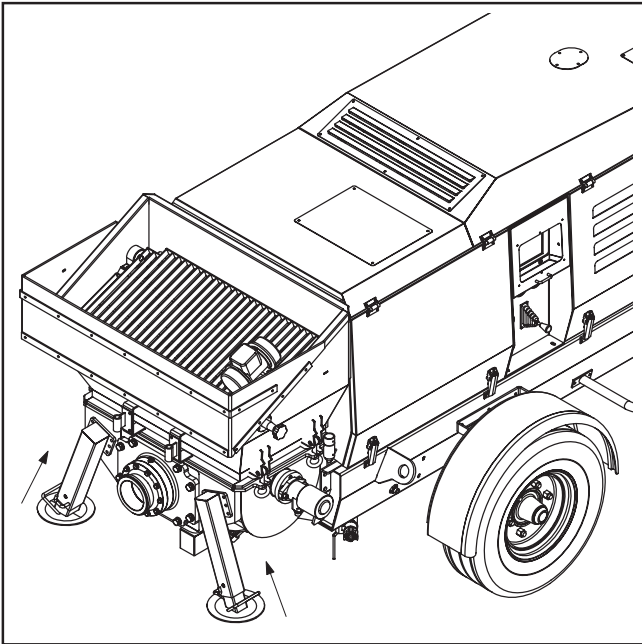

FIG.04
- After having lowered the wheel lift the parking feet to support the machine weight (FIG.04).